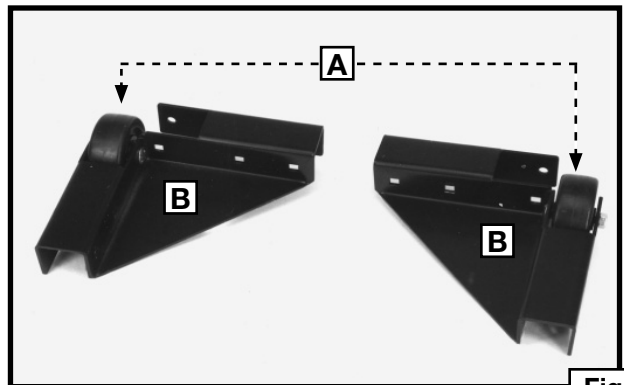

Fig. 4
2. Attach the remaining wheel (A) Fig. 4 to the other corner bracket (B) in the same manner.